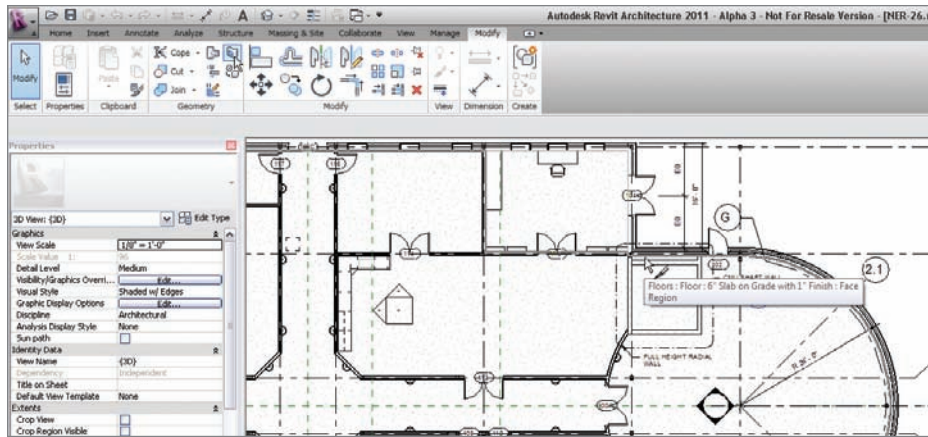

FIGURE 9.67 Clicking the Split Face button and selecting the slab edge
1. Click the Split Face button on the Modify tab, as shown near the top right of Figure 9.67.
2. Select the entire floor. This may require finding the edge of the floor along an exterior wall (see Figure 9.67).